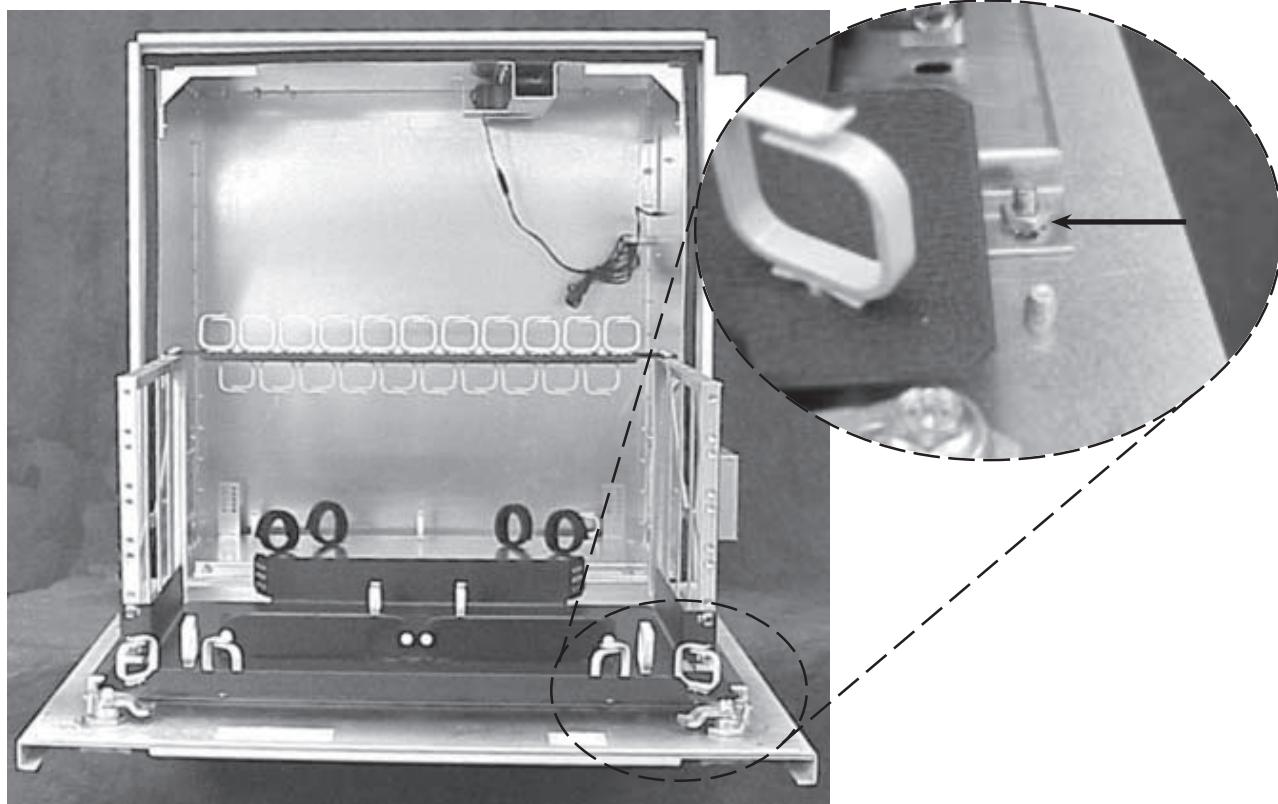

Figure 3
Step 3 Remove the subplate assembly from the inside of the door by removing the four #10-32 nuts that retain the subplate (Figure 3), then lifting the subplate assembly off the mounting studs. The subplate assembly will be reinstalled later in the procedure.